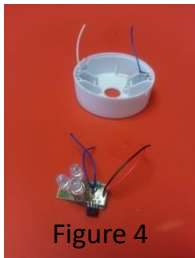

Figure 4
4) Remove the rechargeable battery from the white plastic housing, as shown in **Figure 3**. Remove the screw from the green circuit board to free the high intensity LEDs as shown in **Figure 4**. **NOTE:** Do NOT remove the LEDs from the circuit board.